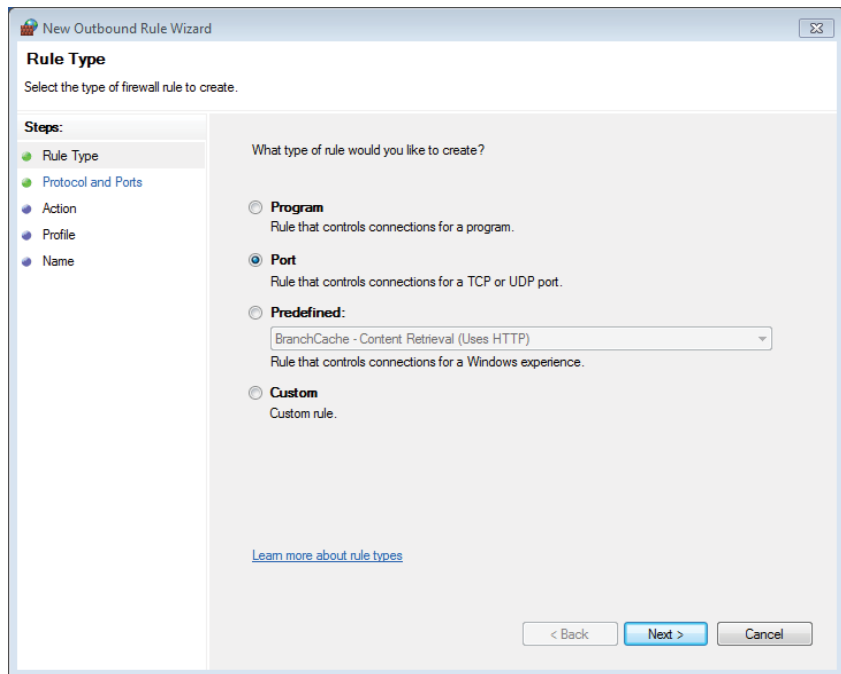

Figure 7. New Outbound Rule Wizard Window
11. Select the following options in the **New Outbound Rule Wizard** (see Figure 7).